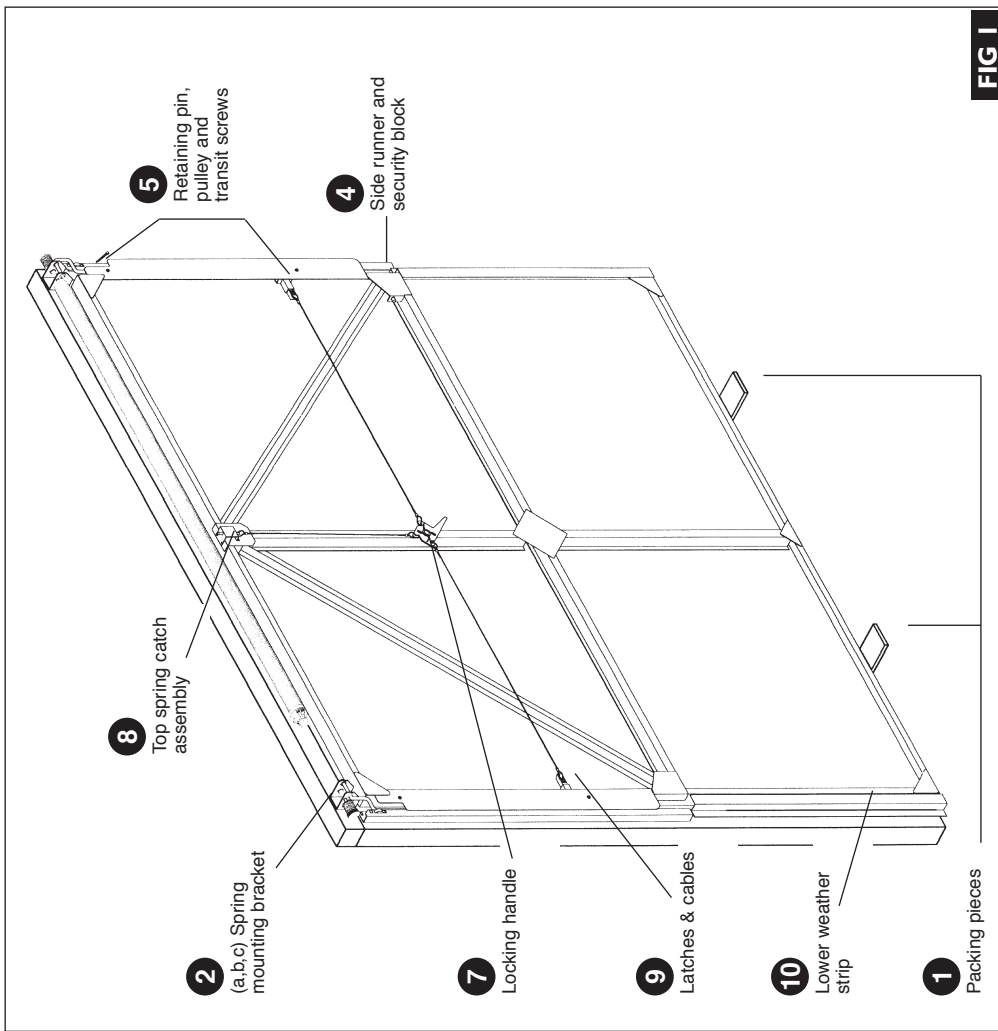

FIG 1
3. Insert 4 off No. 10 x 1/2" self tapping transit screws through the top side seal to secure the side runners in place. (See Fig.1)
4. Remove lower rubber weatherstrips. (See Fig.1)